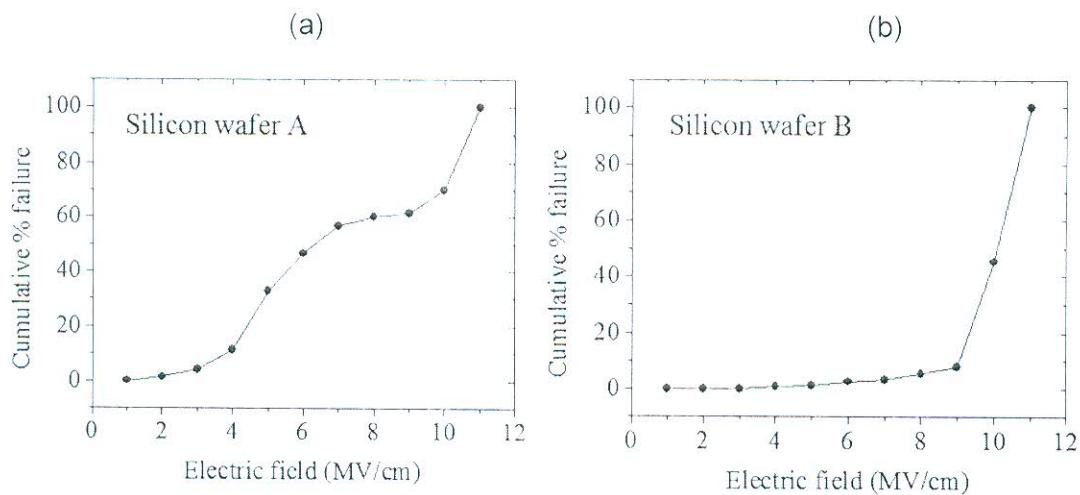

Figure 2 - The cumulative percentage of failure in the TZDB test of
- [c] The time-zero-dielectric-breakdown (TZDB) technique is used to test the gate-oxide-integrity (GOI) of two pieces of p-type silicon wafers (A and B). A total of 100 MOSDOTs (MOS capacitors) are fabricated on the surface of these wafers and the cumulative percentage of failure in the TZDB test are shown in Figure 2. Given that the cumulative failure, $F = 1 - \exp(-AD)$ and the MOSDOT area (A) is 0.01 cm^2 . What is the defect density (D) corresponding to the breakdown electric field of 5 MV/cm in